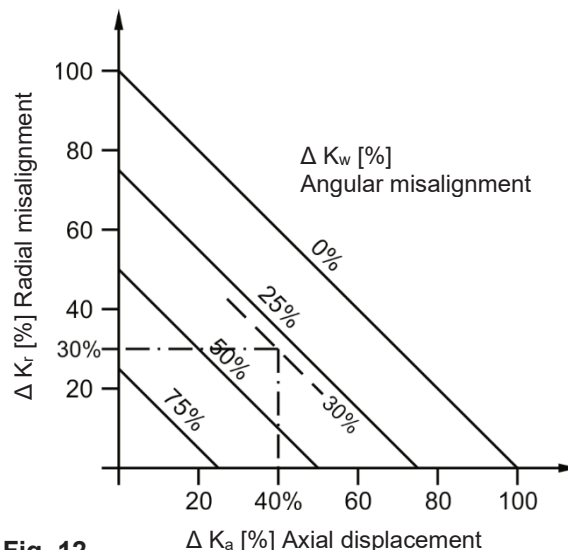
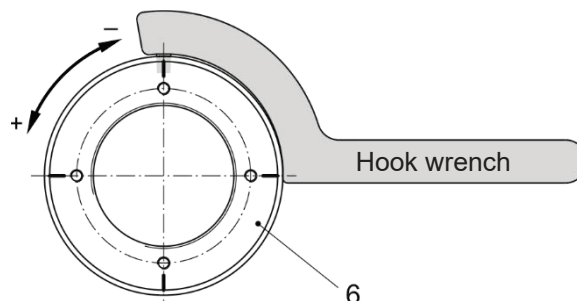
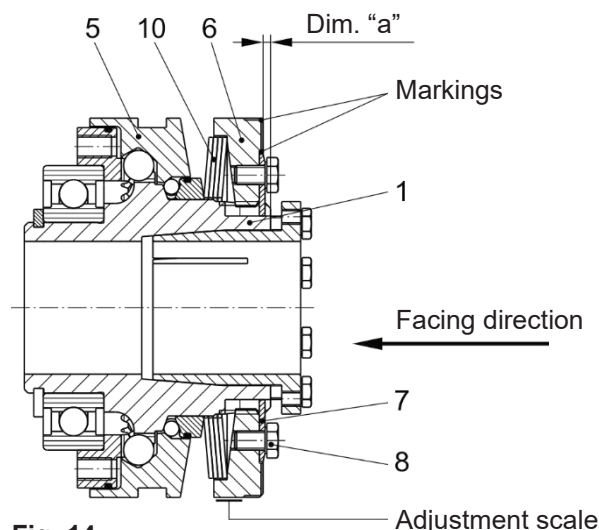
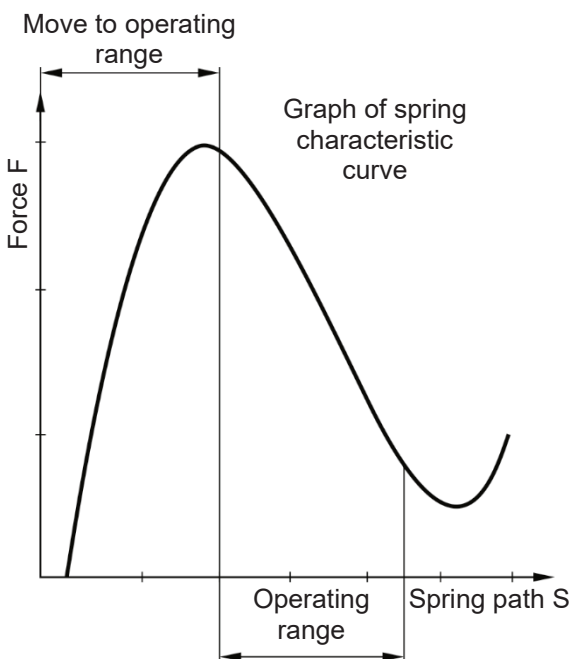

Fig. 12
Fig. 13
Fig. 14
Fig. 15
However, the Type-specific permitted shaft misalignments indicated in Tables 8 and 11 must not simultaneously reach their maximum value. If more than one kind of misalignment takes place simultaneously, they influence each other. This means that the permitted misalignment values are dependent on one another, see Fig. 12. The sum total of the actual misalignments in percent of the maximum value must not exceed 100 %.
Torque adjustment is carried out by turning the adjusting nut (6). The installed cup springs (10) are operated in the negative range of the characteristic curve (see Fig. 15); this means that a stronger pre-tensioning of the cup spring results in a decrease of the spring force.
It is possible to check the **"Spring operation in the operating range"** (Fig. 15) using the dimension "a" (distance from the adjusting nut (6) facing side to the hub (1) facing side, as shown in Fig. 14).
(6) as shown in Fig. 13 and Fig. 14.
- b) Remove both locking screws (hexagon head screws Item 8) from the adjusting nut (6).
- c) Turn the adjusting nut (6) using the adjustment scale on the outer diameter of the adjusting nut (Item 6 / Fig. 14) clockwise or anti-clockwise using a hook wrench until the required torque is reached. The required torque results from the marking overlap on the locking ring (7) as well as on the adjusting nut (6) and the percent value of the adjustment scale on the adjusting nut (6), as shown in Fig. 14.
- d) If necessary, the adjusting nut (6) must be turned slightly, so that both threaded holes for the locking screws (8) align with one of the bores in the locking ring (7).
- e) Paint both locking screws (8) with Loctite 243 and screw them into the adjusting nut (6).
Adjusting the adjusting nut (4) or distorting the cup spring (9) outside of the cup spring characteristic curve (see Fig. 12) stops the clutch functioning.
The inspection dimension "a" (see Table 3) can show deviations due to construction tolerances or to clutch wear. After de-installing the clutch (e.g. due to cup spring replacement or changes to the cup spring layering), the clutch must be re-adjusted and calibrated using dimension "a" (see Table 3 and Fig. 14).
- ☐ Adjust the switch distance for the contactless limit switch acc. Fig. 15. The distance of the thrust washer (5) to the switching point can be adjusted using a hexagon head screw, wrench opening 7.